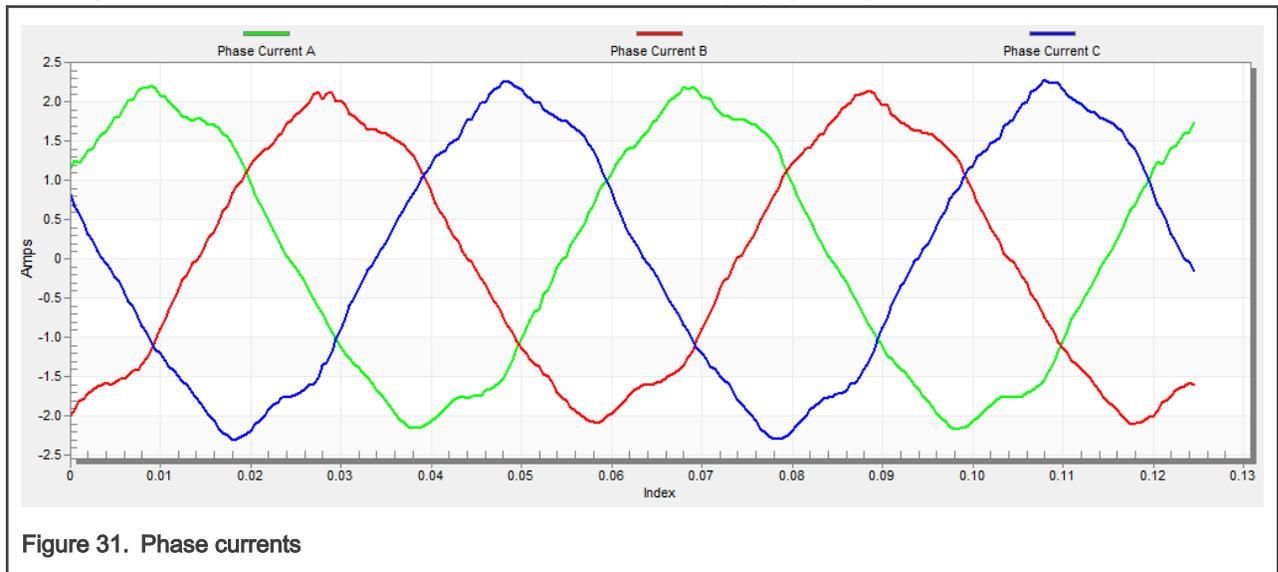

Figure 31. Phase currents
5. The optimal ratio for the V/Hz profile can be found by changing the V/Hz factor directly or using the “UP/DOWN” buttons. The shape of the motor currents should be close to a sinusoidal shape (Figure 31).